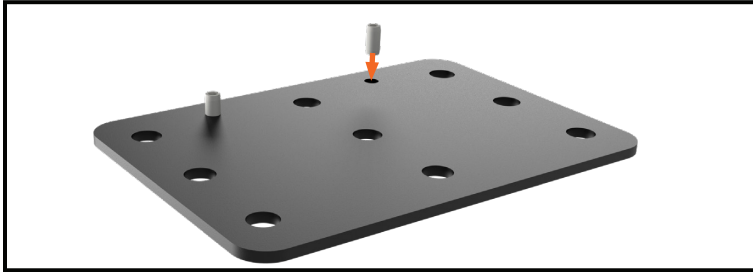
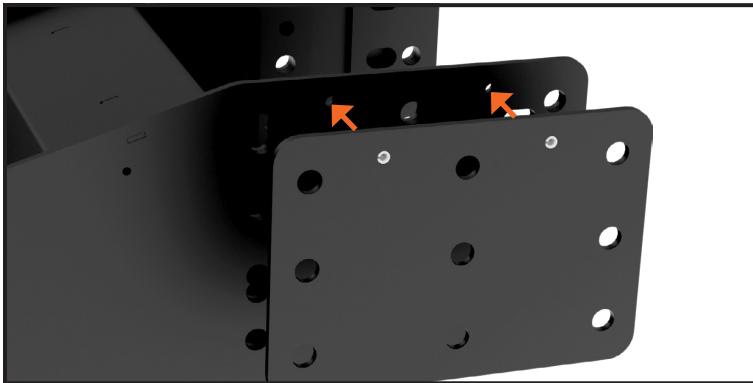

FIGURE A1: Installing roll pins into the shim plates
FIGURE A2: Installing shim plates onto adapter
5. **Install shim plates.** If the space between the pin box mounting plates is 12", skip to Install Adapter onto the Trailer. If the space is 12-1/2" like the Lippert® 1116/1716 pin box series, an RVXA3140 shim kit will need to be installed. Locate the four 3/8" roll pins. Start the roll pins into the small holes of the shim plates, see **Figure A1**. Align the shim plates with the holes in the adapter, as shown in **Figure A2**. Drive the roll pins in with a hammer until the end of the pins are flush with the shim plates and the shim plates are tight against the adapter.